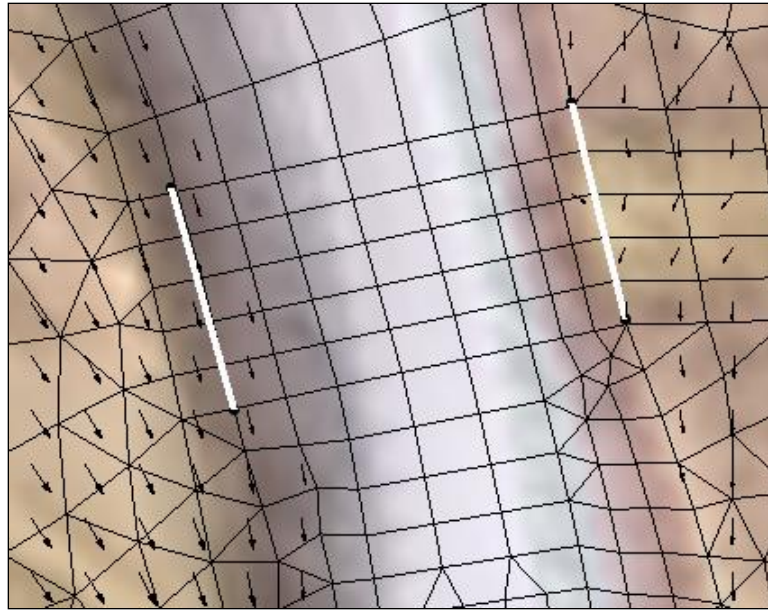

Figure 3 Upstream and Downstream BC Culvert Arcs
9. Using the **Create Feature Arc** tool, create two arcs, one on each side of the road. The created arcs should be placed in the locations shown in Figure 3.